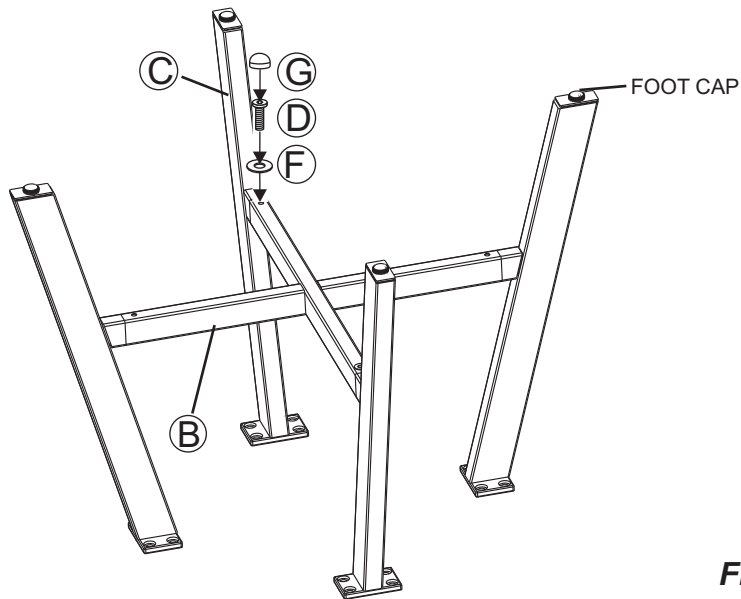

Figure 1
- 1 Place the table top upside down on a flat, non-abrasive surface. Attach a table leg to the table top by using three 1/4"x28 mm bolts and washers as shown in **Figure 1**. Guide the bolts through the holes in the table leg into the pre-drilled holes in the table top. **Hand tighten only 2-3 turns**. Repeat for the other leg.
- 1 Attach a table leg to the leg connector bracket by using a 1/4"x15 mm bolt and washer as shown in **Figure 1**. Guide the bolt through the hole in the leg connector bracket, into the pre-drilled hole in the leg. **Hand tighten only 2-3 turns**. Repeat for the other three legs.